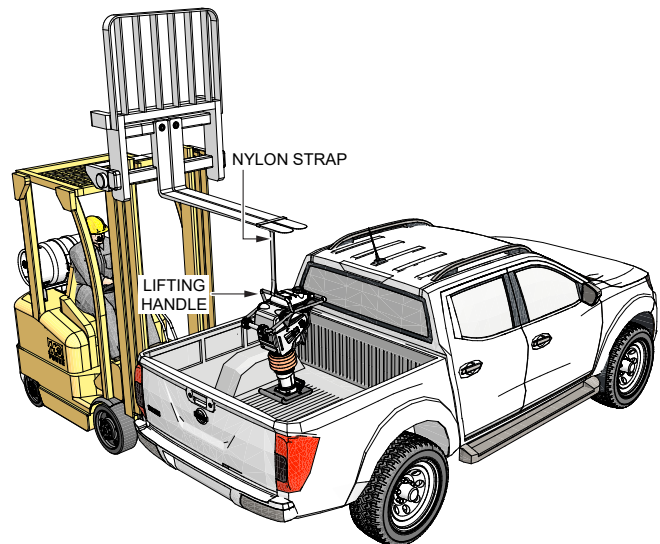

Figure 5. Rammer Lifting (Forklift/Crane)
1. When using a forklift or crane to lift the rammer, attach a suitable lifting strap to the **lifting handle** on the rammer as shown in Figure 5.